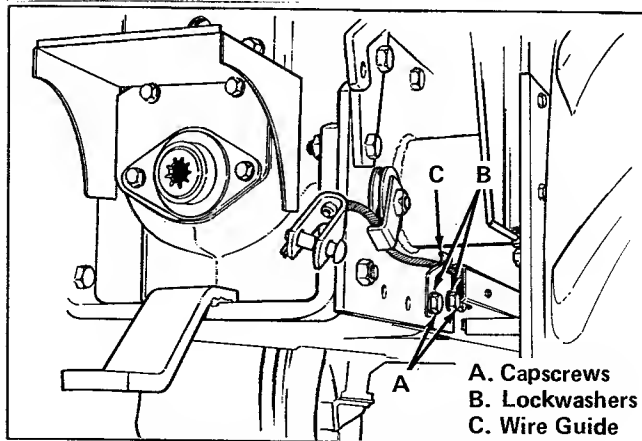

Figure 5. Capscrew Removal
10. Remove two capscrews (item A, figure 5) and lockwashers (item B) from tractor frame. Save lockwashers for the next step. Discard wire guide (item C) and two capscrews.